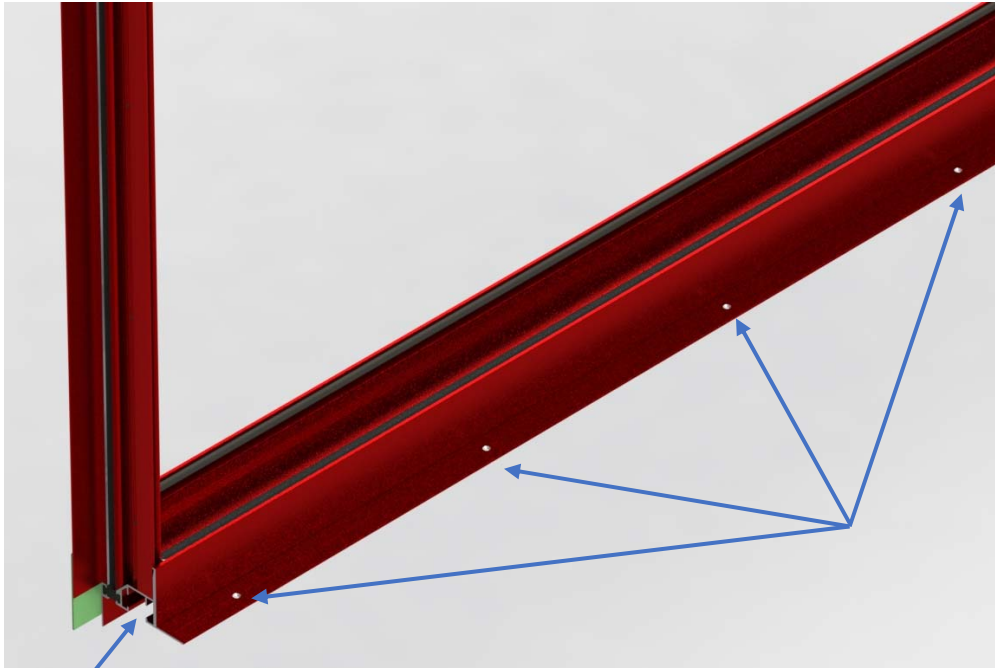

Fig. 13
- C. Drill pilot holes in the interior sub-sill anchor flange per shop drawings or anchorage calculations. Typically 3" from the ends and 12" on center. (Fig. 13)